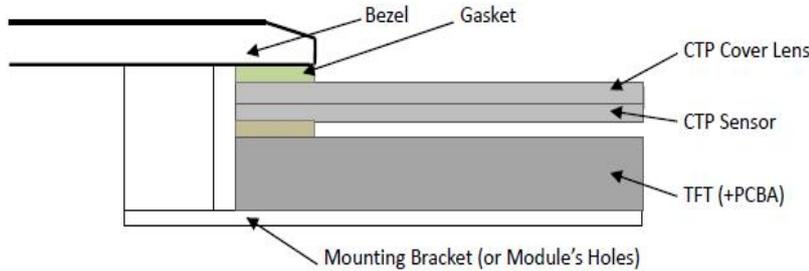

Figure 1
9.1 Bezel Mounting (Figure 1)
9.1 面框安装(附图1)